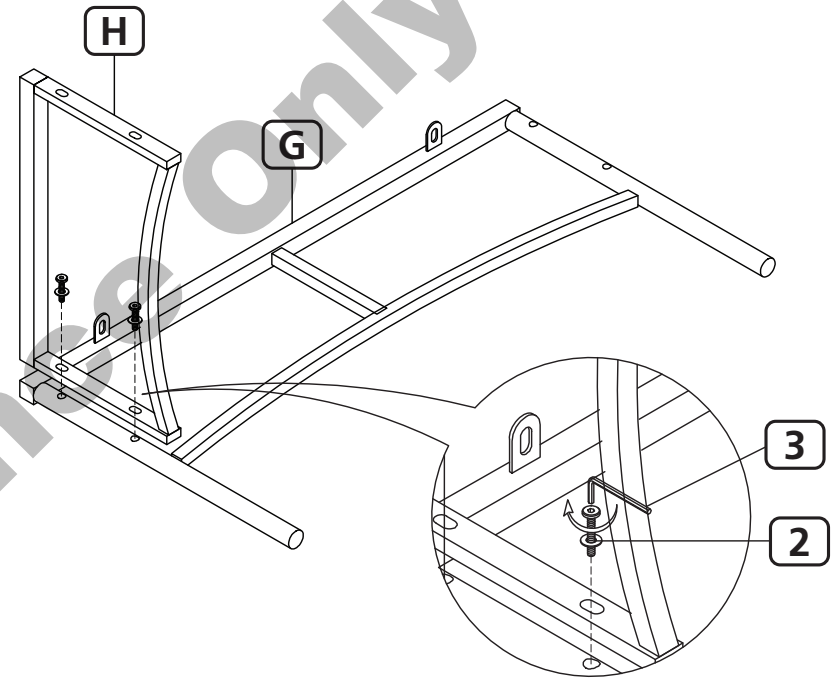

Fig. 7
Insert two M6x25 Bolts (2) with washers through eyelets of Table Panel (H), and into Table Legs (G), see Fig. 7.